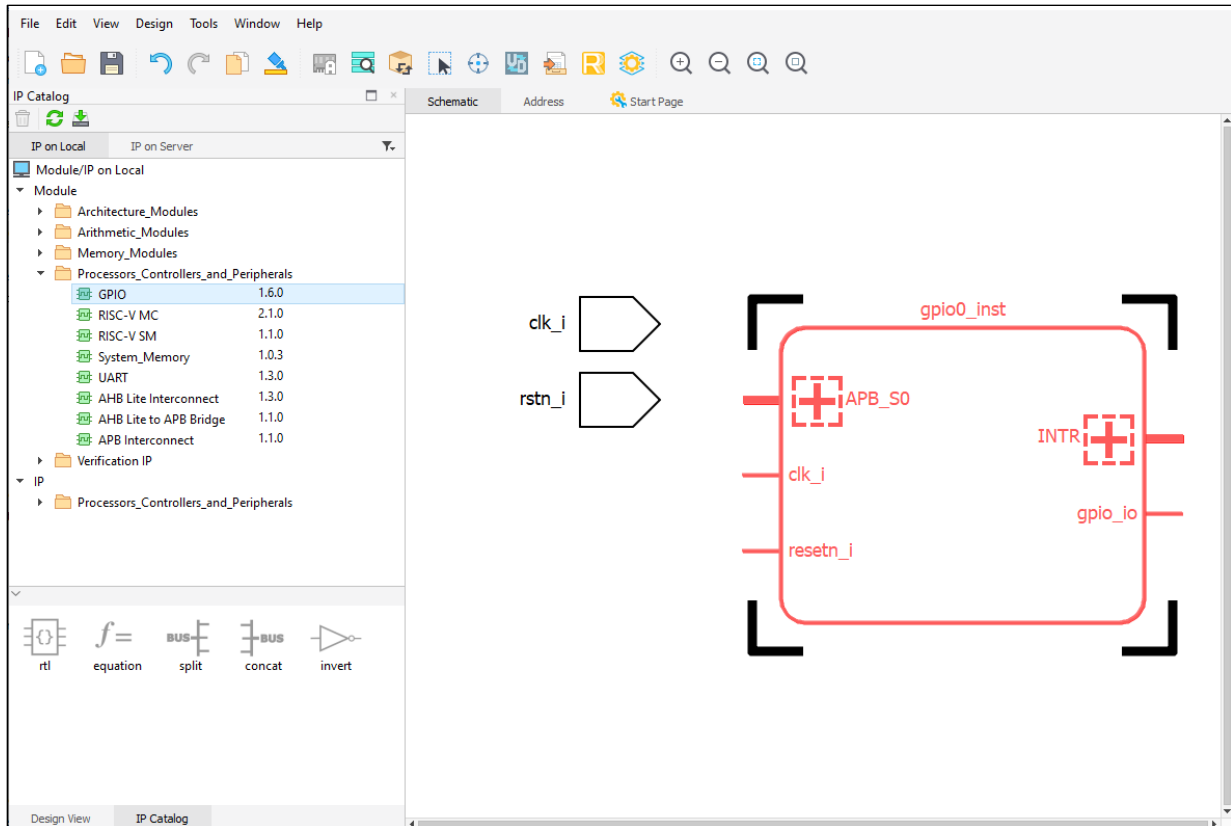

Figure 2.65. Select Object
- Click on the object in the Schematic view. The selected object turns to red (Figure 2.65).